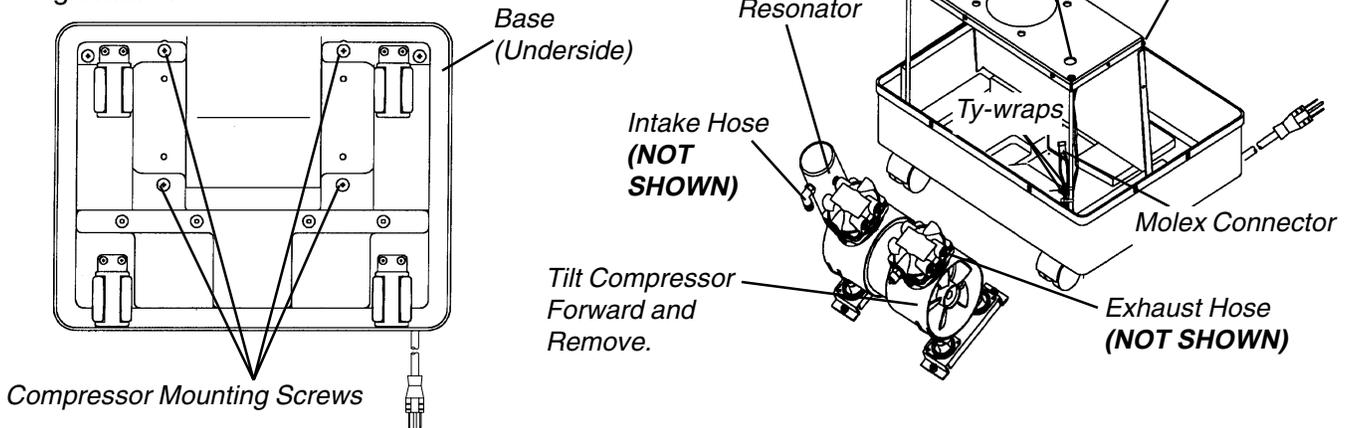

FIGURE 1 - REPLACING COMPRESSOR ASSEMBLY
1. Remove compressor. (Refer to Replacing Compressor Assembly (FIGURE 1)).